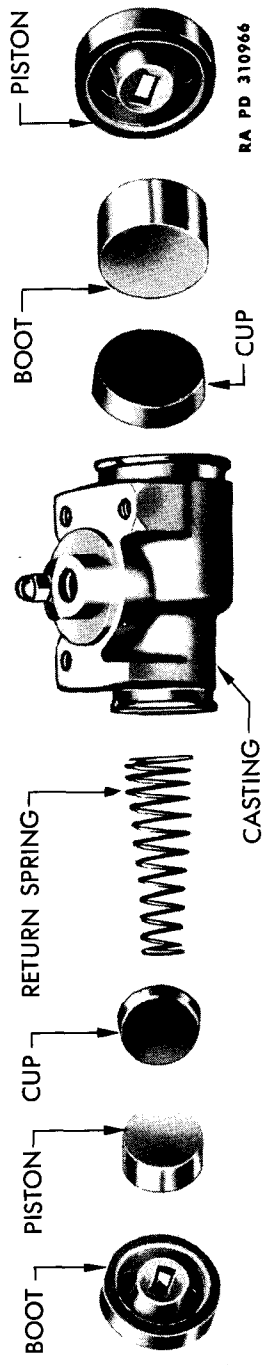

Figure 16 — Parts of Step-bore Wheel Cylinder
(1) One design incorporates a piston with a disk on which the toe of the brake shoe rests.
(2) The other design incorporates a piston with a slotted metal insert in the center into which the top or toe of the brake shoe is directly inserted, eliminating the connecting link.
29. DISASSEMBLY (fig. 16).
31. ASSEMBLY (fig. 16).